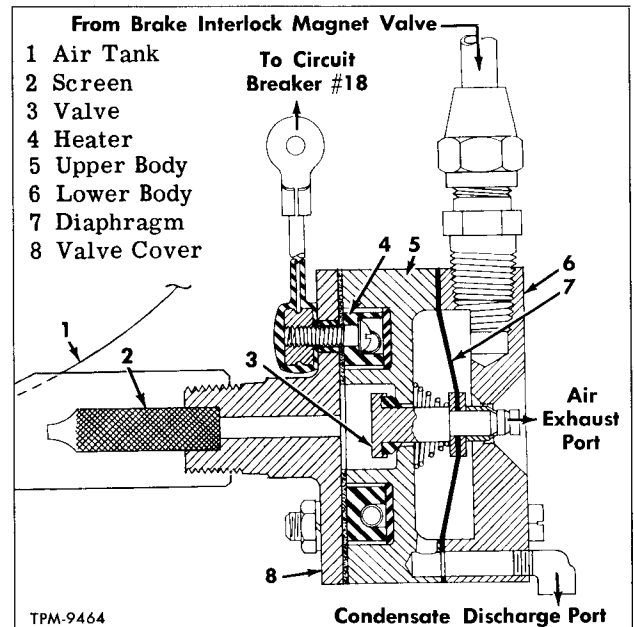

Figure 9—Moisture Ejector Valve (Expello)
and water vapors in compressed air. Most of this condensation takes place in the main (wet) air tank, the tank connected to the air compressor. The moisture ejector valve (fig. 9 or 11), when used, automatically drains condensation from tank each time air compressor governor operates the compressor unloader, or each time the brakes are applied and released (depending upon the type of ejector system used). The dry air tank, suspension air tank, and front brake air tank on Suburban models, must be drained manually each day. Drain tanks completely by leaving drain cocks open after all air is exhausted and until all drainage stops.
The "Expello" moisture ejector valve (fig. 9) is operated by compressed air and automatically ejects condensation from the wet air tank. The valve is connected to bottom of wet air tank. Condensation drains into valve upper body. An optional heating coil, when used, prevents moisture from freezing. Heating coil is connected to No. 18 circuit breaker behind control panel at left side of driver's seat.
Key numbers in text refer to figure 9.
1. Remove four nuts and lock washers from valve body bolts. Mark valve cover (8) and upper (5) and lower (6) bodies to aid in assembly.
4. Cut off small end of stem at second groove. The sleeve that holds assembly together is swaged as shown in figure 9. Remove sleeve from end of valve stem. Remove brass washer, diaphragm (7), second brass washer, and spring. Remove stem from opposite side of upper body.